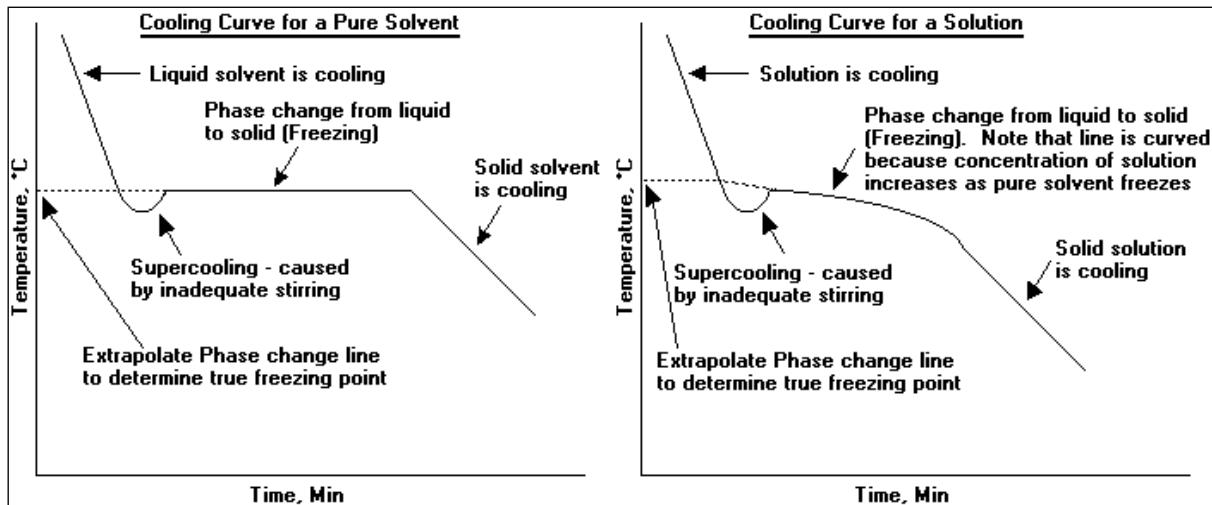

Figure 2. Cooling curves for a pure solvent and a solution
The freezing points of the cyclohexane and the cyclohexane solution are obtained from a cooling curve-a plot of temperature vs. time (Figure 2). The cooling curve for pure cyclohexane reaches a plateau at its freezing point. The cooling curve for the solution does not reach a plateau, but continues to decrease slowly as the cyclohexane freezes. Its freezing point is determined at the intersection of two straight lines drawn through the data points above and below the freezing point (Figure 2).
6. Explain why the freezing point of a pure solvent remains constant whereas the freezing point of a solution continues to decrease with time (Figure 2).